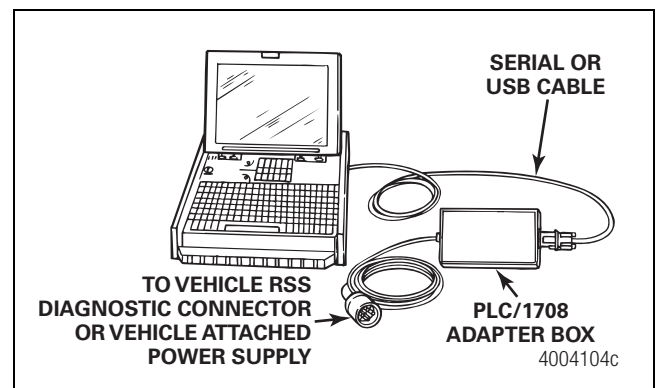

Figure 57
- Attach one end of the vehicle diagnostic connector to the adapter box. Attach the other end to the diagnostic connector on the trailer. Figure 57.